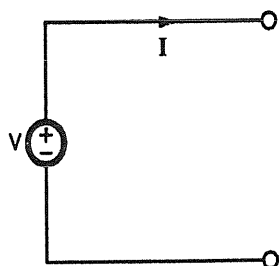

FIG. 1.68 : SYMBOL FOR THE IDEAL VOLTAGE SOURCE
(1) Ideal voltage source :
- Ideal voltage source is shown in Fig. 1.68 & 1.69.